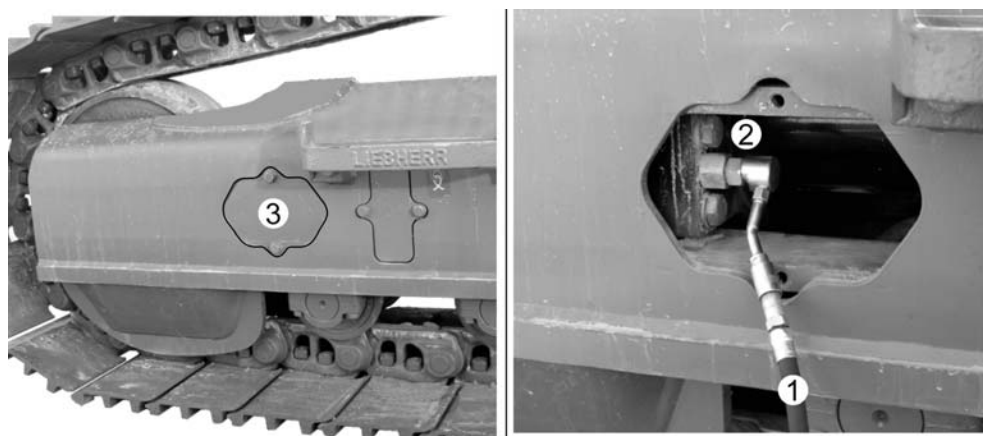

Fig. 5-64 Retensioning the track
- ▶ Carefully unscrew lubricating nipple **2** (siehe Fig. 5-64) by several thread pitches until the grease oozes out of the nipple's annular groove.